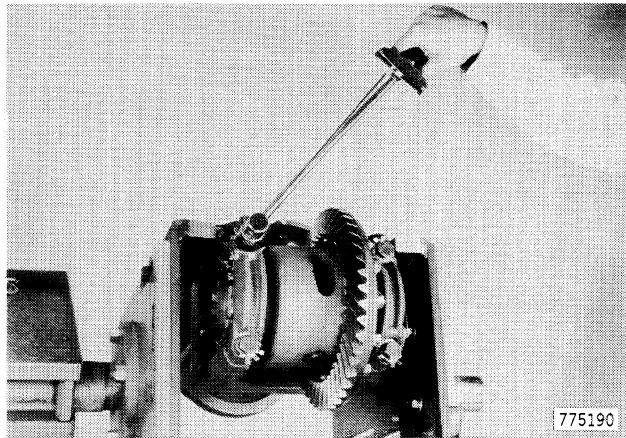

Figure 208
- 58. Tighten differential cap retaining cap screws to 120 foot-pounds (163 N m), Figure 208.